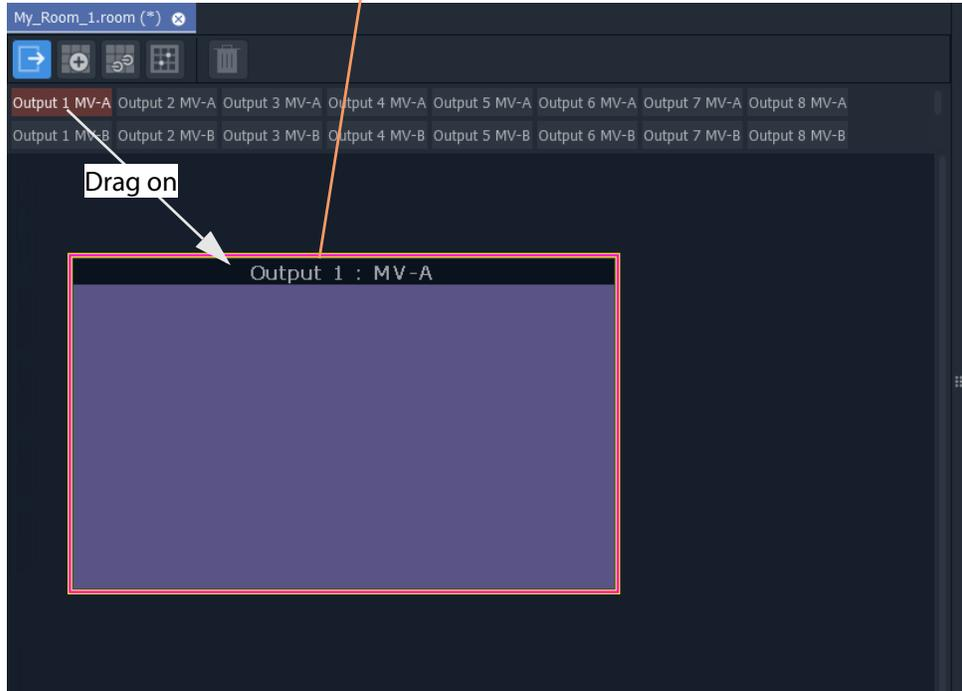

Fig. 8-17: Dragged-on Monitor
- 2 Drag a multiviewer output from the scrollable banner onto the stage area and release. A representation of the monitor appears on the stage. See Figure 8-17.